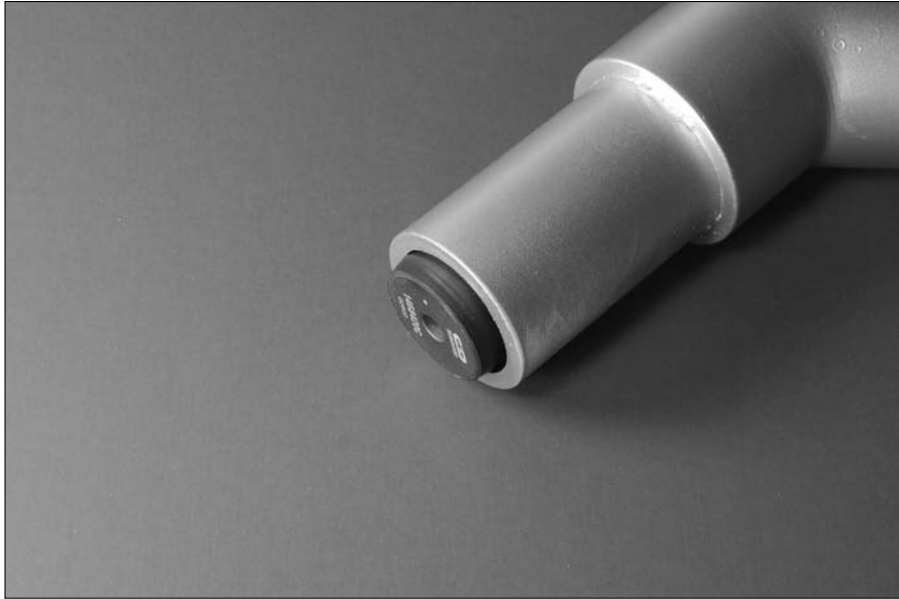

Figure 12-15:
10. Insert the inductor in the end of the 1" PVC pipe, as shown in Figure 12-15, and use some glue to secure the inductor in the pipe.